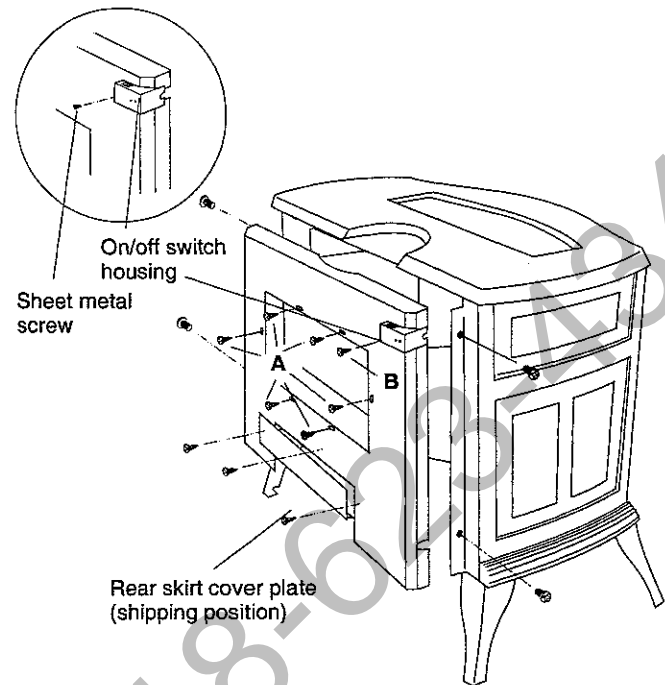
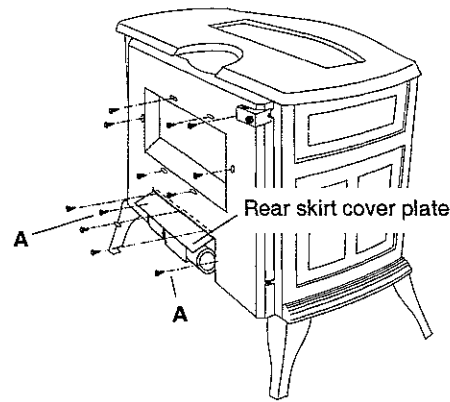

Fig. 10. Removing/replacing the rear skirt.
Fig. 13. Attach the rear skirt cover plate to the rear skirt.
1. **Remove the rear skirt** Fig. 10. Use work gloves to protect your hands. Remove the rear skirt cover plate. Remove the six sheet metal screws ('A' in Figure 10) surrounding the draft hood opening. Remove one sheet metal screw ('B' in Figure 10) holding the on/off switch housing to the rear skirt. Loosen the Phillips-head bolts on each side of the rear skirt. Remove the skirt, and set it aside. Let the on/off switch and housing hang loosely.
8. Re-attach the rear skirt cover plate by fastening it to the rear skirt as shown in Fig. 13. The top edge of the cover plate goes inside the rear skirt. Re-install and tighten the six sheet metal screws around the draft hood opening; see 'A', Figure 10. Use two screws from the fan kit to fasten the rear skirt to the fan shield; see 'A', Fig. 13.